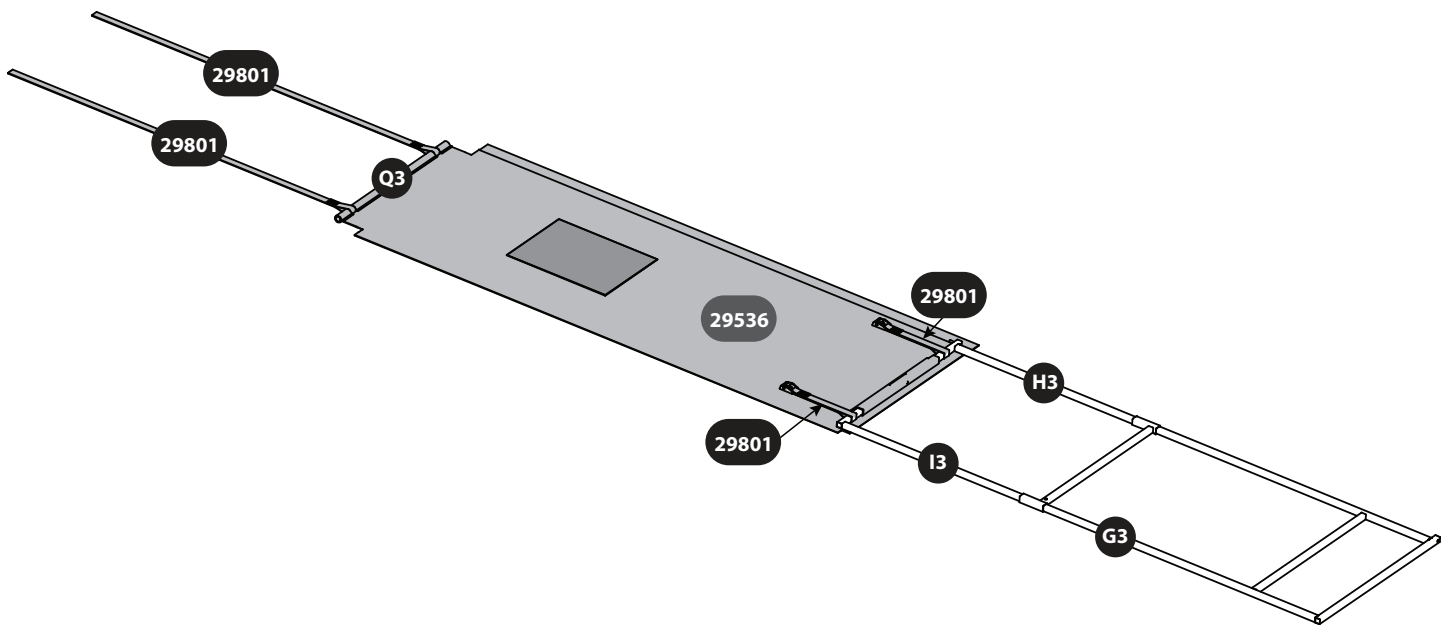

FIGURE 14
37. Slide a cam strap end onto each part (H3) and (I3) as shown in **FIGURE 14**. Then slide (H3) and (I3) into the sleeve in door panel (29536) so that snap pin secures them together inside of the sleeve as shown in **FIGURE 14**.
38. Slide door frame top (G3) onto assembled door frame bottom so that snap pins secure them together as shown in **FIGURE 14**.
39. Slide pole (Q3) into top sleeve of door panel being sure to also slide on the two long loop ends of cam straps (29801) as shown in **FIGURE 14**.